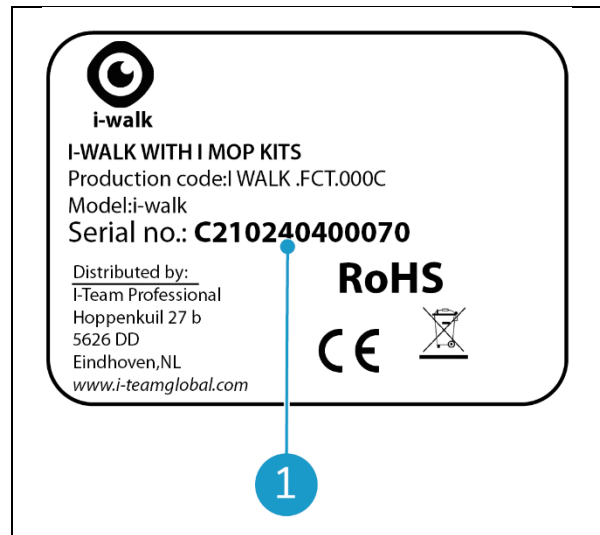

Figure 3
Each i-walk has a unique serial number (Figure 3, pos. 1).